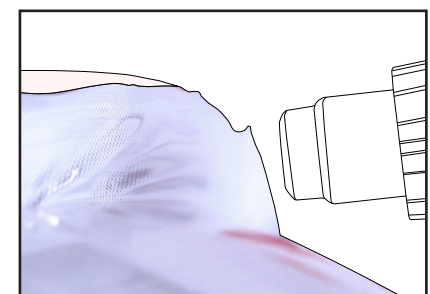

Figure 19
- › As for the bottom, heat the top of the film to 30 °C - 40 °C (86 °F - 104 °F) using the heat gun to reduce the tensions created during the first steps of film application. (FIG. 19)